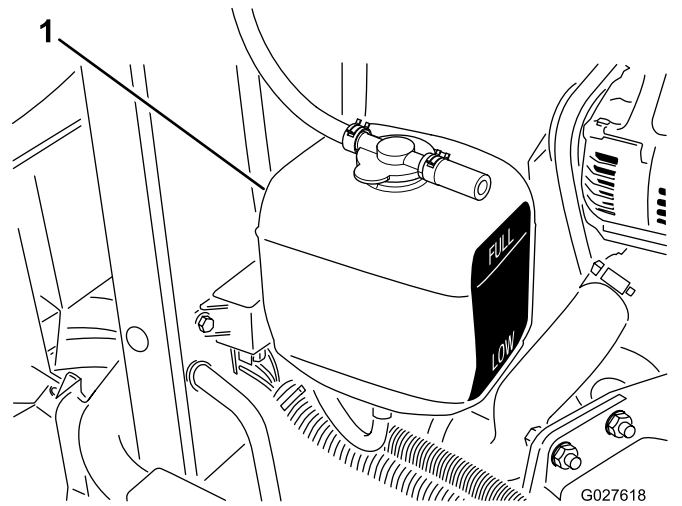

Figure 41
1. Check the coolant level in the expansion tank (Figure 41).